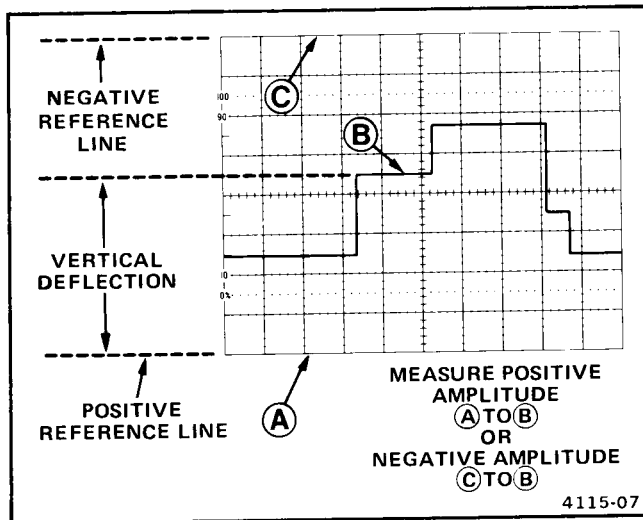

Figure 4-3. Instantaneous voltage measurement.
11. Measure the divisions of vertical deflection between the reference line and the desired point on the waveform at which the dc level is to be determined (see Figure 4-3).
**EXAMPLE:** The measured vertical deflection from the reference line is 4.6 divisions (see Figure 4-3), the waveform is above the reference line, the VOLTS/DIV switch is set to 2, a 10X attenuator probe is being used, and the A TRIGGER SLOPE switch is set to OUT:  $\sqrt{\quad}$ .